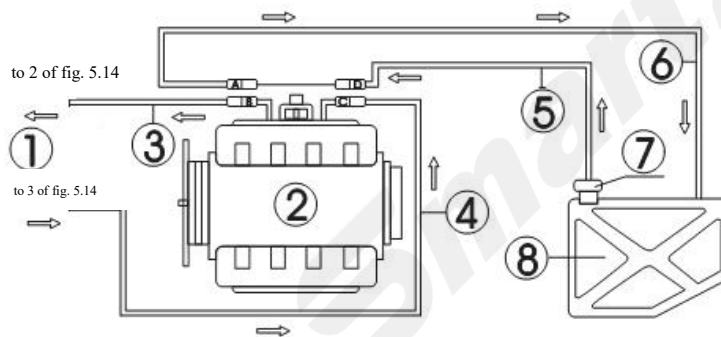

Figure 5.14 Line Connection 1
- 1) Disconnect the fuel supply hoses (C, D) and fuel return hoses (A, B) of the engine fuel system (when disconnecting the fuel line connectors, cover them with towels). Choose proper connectors and connect them to the B end and C end separately, and then connect the other ends to corresponding return hose and outlet hose of the device. See Figure 5.14.